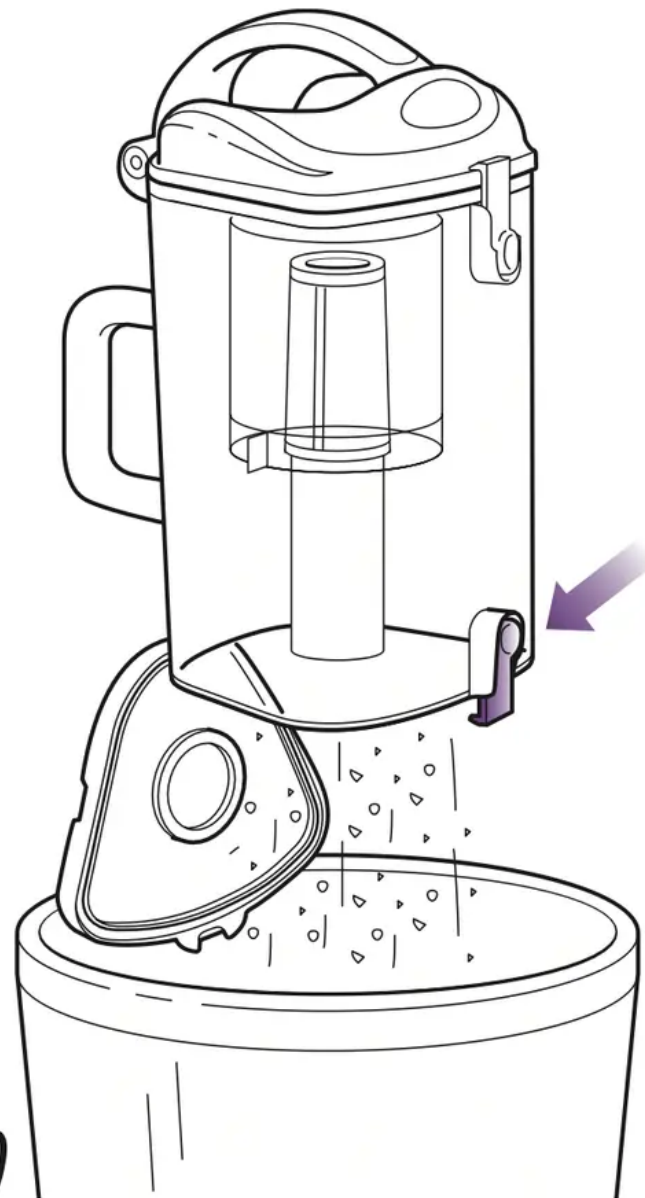

Fig. 20
2. Hold the dust cup over a trash receptacle and press the bottom door release button. (Fig. 20) Tap gently to empty contents. Press the door shut again until it clicks.